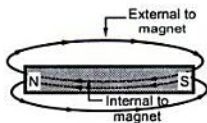

Fig. 3.10 Lines of force complete the closed path
- 2) Each line forms a closed loop as shown in the Fig. 3.10.